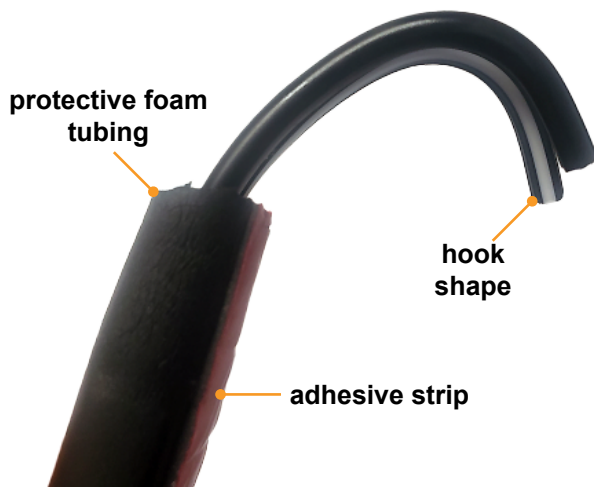

Fig.18
B. Form the exposed wires into a hook shape (Fig.18) so they will feed successfully through the elbow shroud.